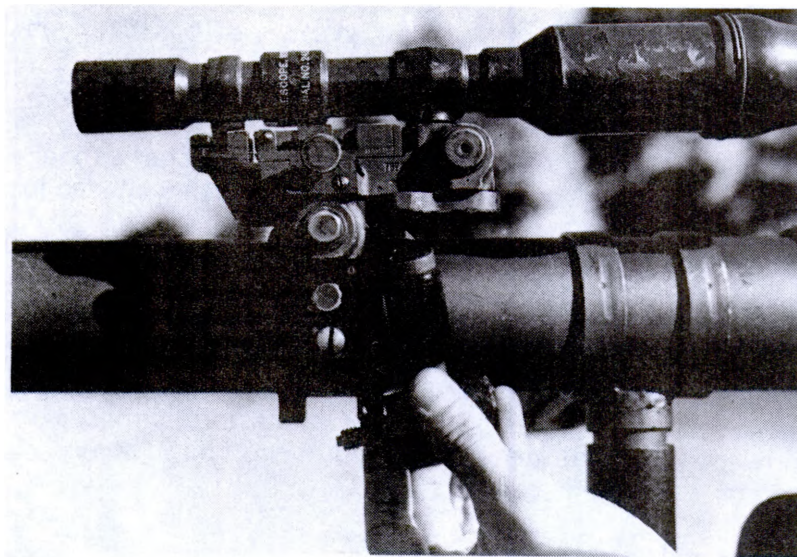

Figure 1
a. Loosen the azimuth clamping nut (fig. 1).